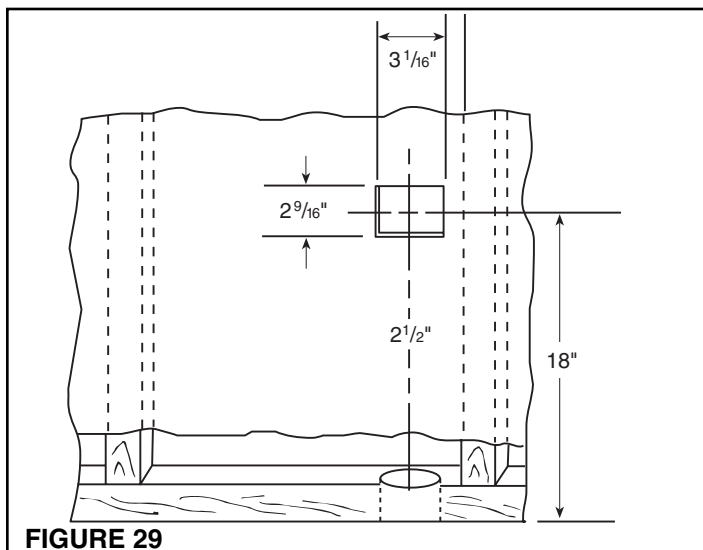

FIGURE 29
1. See Figure 29. A small 'pilot' or 'locating' hole can be drilled behind baseboard toe strip to determine proper location of 2½" diameter tubing hole in sole plate.
5. If area is clear, cut an inlet opening in the wall approximately 18" above the floor. Make sure wall opening and 2½" tube hole line up (Figure 29).